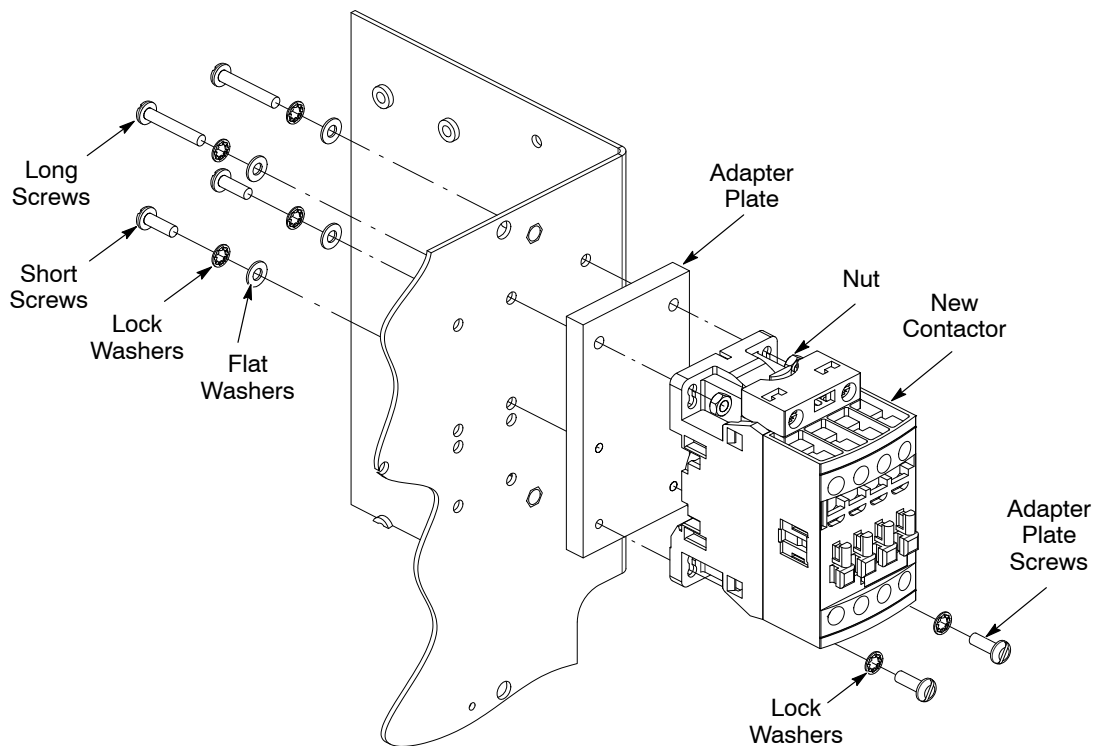

Figure 7 Installing New Contactor
1. See Figure 7. Install adapter plate onto new contactor using two M4 x 12 mm contactor screws and lock washers. Torque to 20 in-lb (2.3 N•m).
NOTE: Note the location of long and short screws as shown in Figure 7.